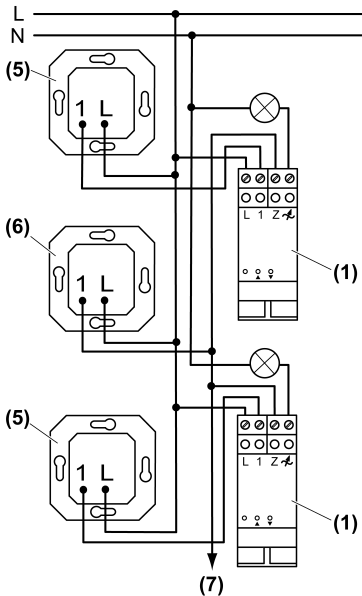

Figure 3: Connection diagram for central extension
- Connect the dimmer (1), local extensions (5) and central extension (6) according to the connection diagram (Figure 3).
- Optionally connect central extension to additional dimmers or additional central extensions (7) (Figure 3).